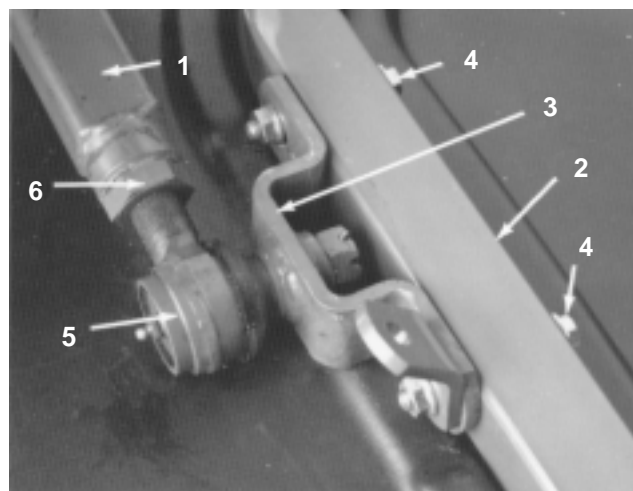

Figure 20
6. Have another person push down on the left push arm while you remove the capscrews, flat washers, and locknuts securing the ball joint mount and chain bracket to the castor arm on the cutting unit (Fig. 20). Now the helper can carefully allow the push arm to move upward, which will gradually release the 150 pounds (68 kg) of spring load.
5. Have another person carefully push down on the left push arm until the holes in the ball joint mount line up with the holes in the castor arm (Fig. 20). Immediately slide a 4 x 4 in. block of wood between the top of the push arm and the underside of the chassis.